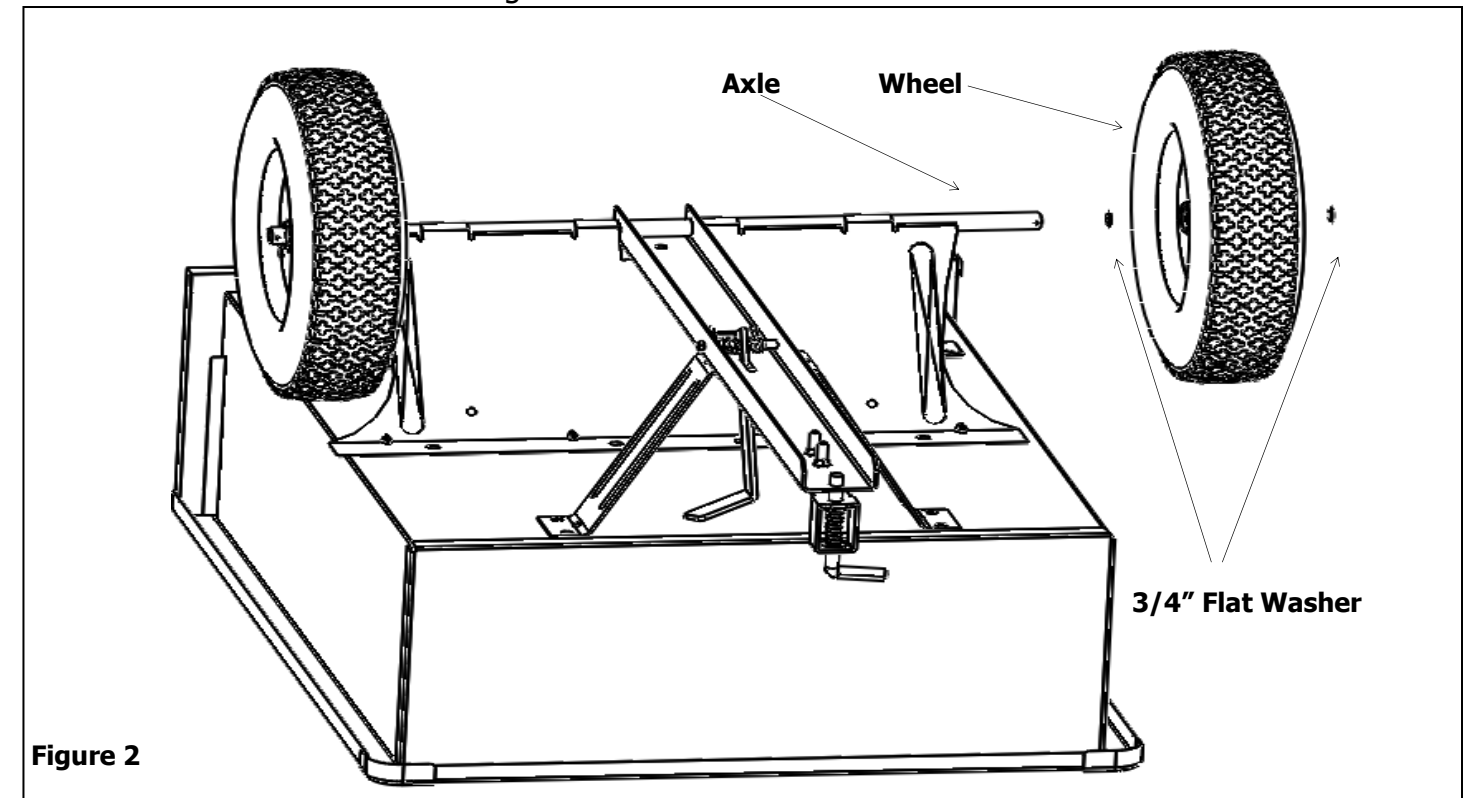

Figure 2
2. Center the Axle in the Axle Support then place one 3/4" Flat Washer on each side of the Axle next to the Axle Support. Place one Wheel on each side of the Axle and one more 3/4" Flat Washers on the outside of each Wheel. See Figure 2.